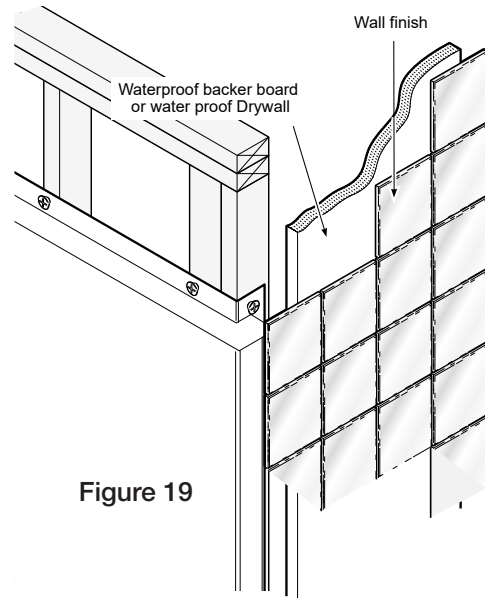

Figure 19
19. The shower threshold must be flat across the full width with no bow and be level to the floor. Finishing panels (plasterboard, ceramic tile, etc.) should completely cover the shower mount flanges. The joint between the wall panels and the finishing panels can be covered with a joint compound, a plastic strip, or a tile strip. To prevent water infiltration, apply a bead of silicone caulk between the floor and the threshold of the unit. See Figure 19.